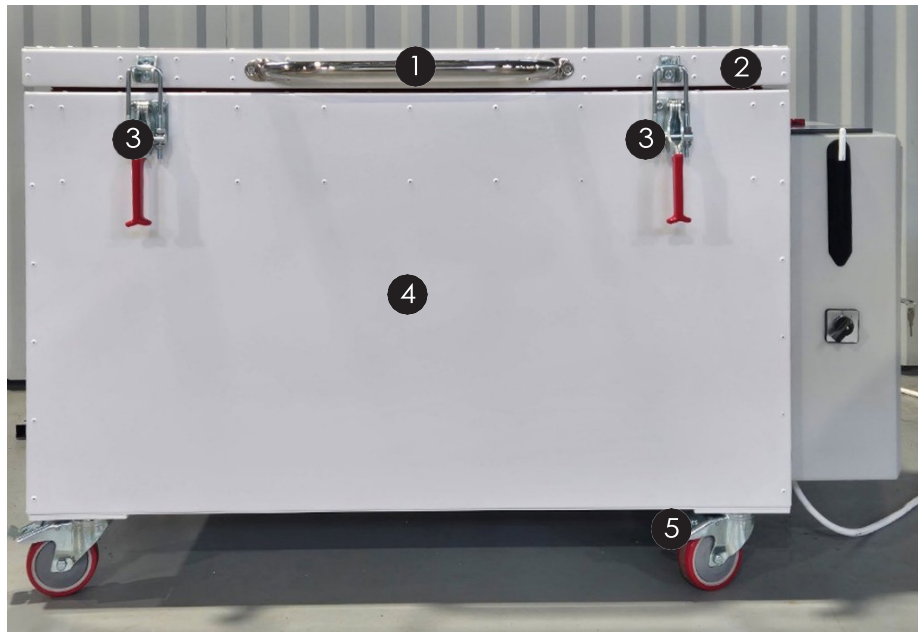
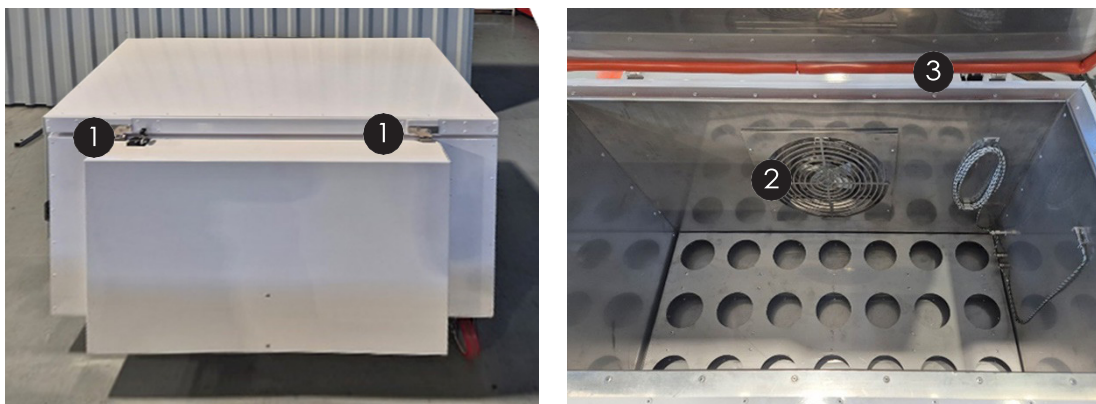

Figure 13. Front view of Thermostat Chamber OVEN-500-100.
Figure 14. Rear and Interior View of Polymerization Ovens
The Polymerization Oven structurally consists of a housing and lid, manufactured from aluminum sheets on the exterior and stainless steel sheets on the interior. A thermal insulation material (ceramic fiber blanket) is placed between the metal sheets. Swivel wheels are installed for ease of movement within the production area (item 4 in Fig. 13).
A silicone Seal is installed around the lid's perimeter (Fig. 14, item 3) to ensure a tight fit against the body. The lid is attached with two hinges (Fig. 14, item 1) and secured to the body with two latches (Fig. 13, item 2).